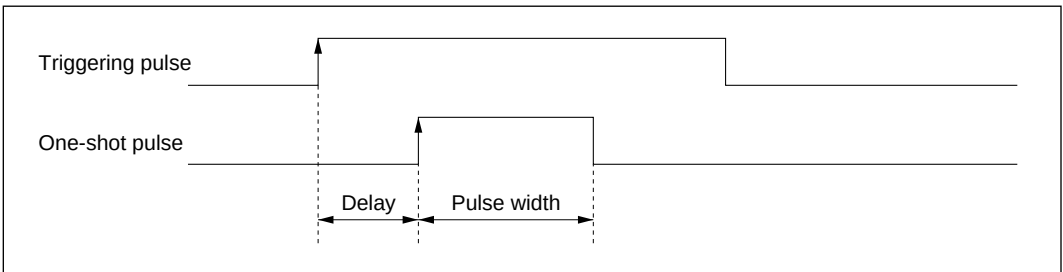

Figure 1 One-Shot Pulse Output Timing
1. This sample task outputs a one-shot pulse delayed with respect to a triggering pulse as shown in figure 1.